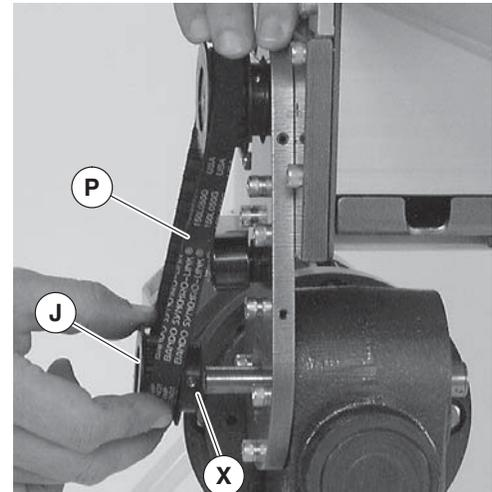

Figure 14
If drive pulley (Figure 14, item J) is replaced, wrap timing belt around drive pulley and complete step 3.
3. Loosen drive pulley set screws (Figure 14, item X). Remove drive pulley (J) and timing belt (P).
Drive pulley (Figure 14, item J) is removed. Wrap timing belt around drive pulley and complete step 13.